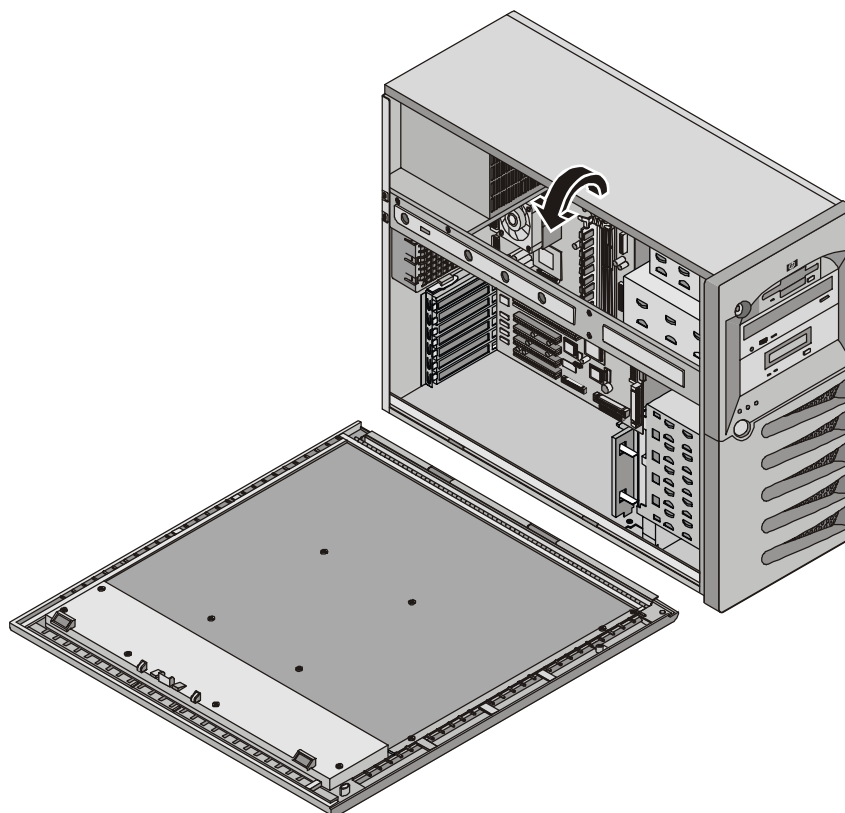

Figure 3-4. Side Panel (Open)
- The system board modules, power supply, fan assembly, and PCI cards are accessible from the side panel. See Figure 3-4.
3. Lift the latch and open the panel. See Figure 3-4.